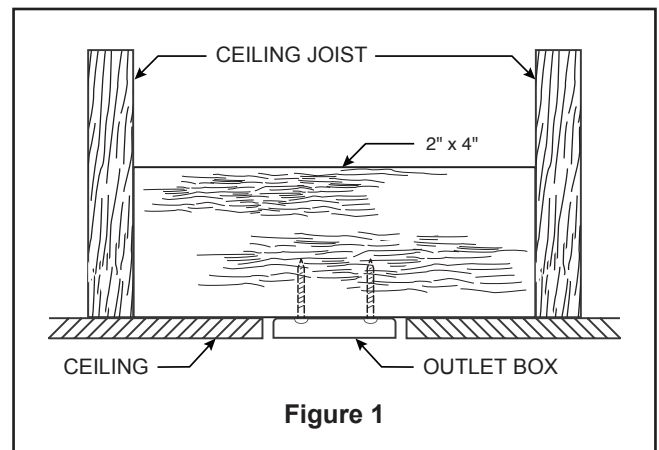
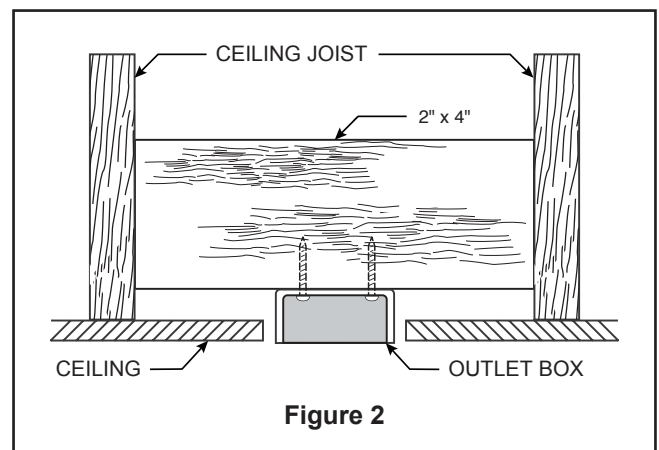
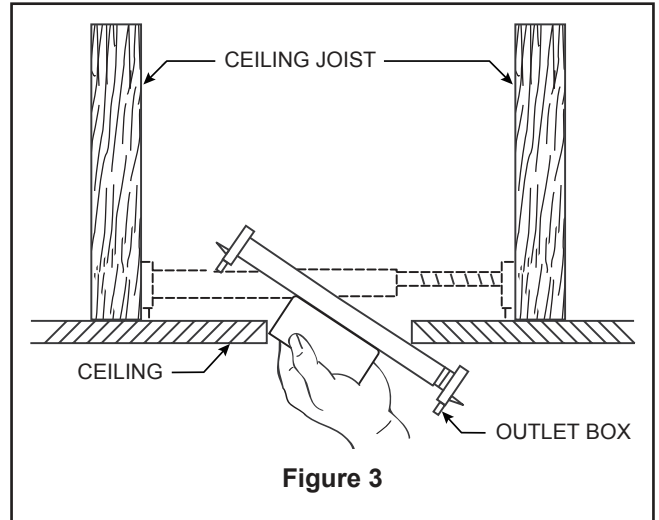

Figure 1
Figure 2
Figure 3
Your new ceiling fan will require a grounded electrical supply line of 120 volts AC, 60 HZ, 15 Amp Circuit. Electrical code requires use of a fan-rated outlet box to support the extra weight and motion associated with a ceiling fan. A fan-rated box will be labeled as such and typically supports up to a 70lb ceiling fan. Fan-Rated Outlet Boxes vary in ratings and design. Ensure the ratings of your ceiling fan outlet box meet the requirements for the ceiling fan being installed. Figure 1, Figure 2 and Figure 3 depicts different structural configurations that may be used for mounting the outlet box.
## Low profile box (Figure 1)
## Deep box (Figure 2)
### Deep box with brace (Figure 3)
3. Loosen the two set screws and locking nuts in the downrod support of the motor assembly. Route the black, white and blue wires through the downrod. (Figure 3)
1. Securely attach the hanger bracket to the outlet box (not included) using the outlet box screws and washers supplied with the outlet box. (Figure 3)
2. Slide the receiver into the hanger bracket before wiring as shown in figure 3.